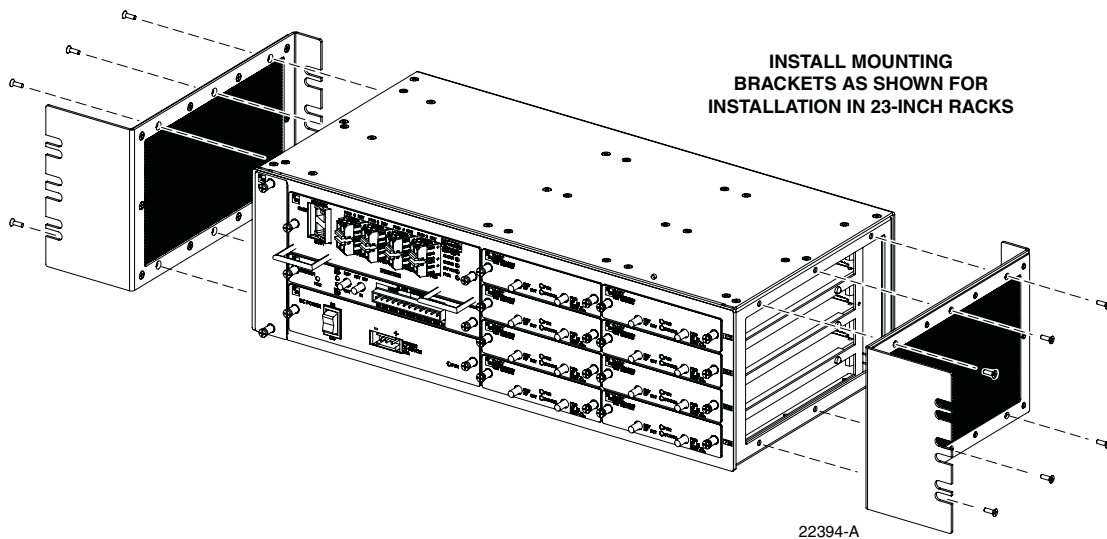

Figure 10. Installing the Mounting Brackets for 23-Inch Rack Installations
3. Reinstall both mounting brackets so the short side of the bracket is flush with the HU front panel as shown in Figure 10. Use the screws removed in Step 2 to re-attach the brackets to the HU chassis.